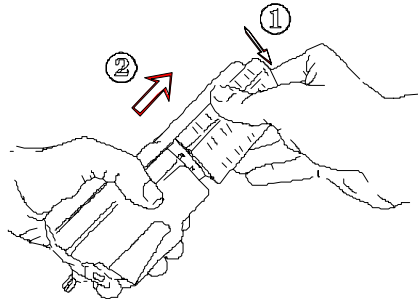

Figure 3.- Removing the battery.
The battery is accessible from the back of the instrument. To disconnect the battery, press the tab found at one end of it (1) and move the battery to separate it from the body of the instrument (2). The battery will be released from its holder. Then slide the battery out, as shown in figure 3.